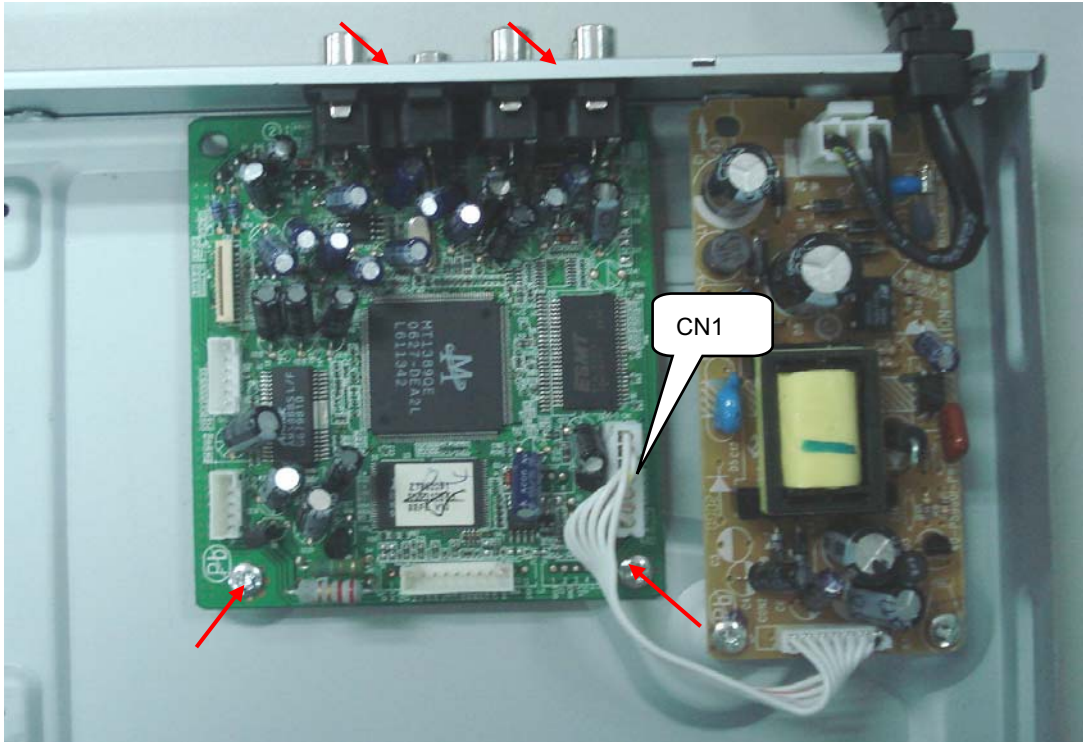

Figure 8
Step6: Dismantling Main Board, first disconnect the 1 connector, then remove 4 screws to remove the Main board. (Figure 8)